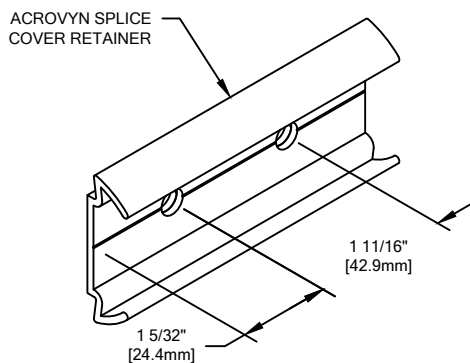

FIGURE 1.
4. DRILL TWO 9/32\" PILOT HOLES THROUGH THE ACROVYN SPLICE COVER RETAINER, 1 5/32\" [29.4mm] FROM THE END AND 1 11/16\" [42.9mm] O.C. ALONG THE DIE MARK (SEE FIGURE 1). THE 3\" SPLICE CLIP MAY ALSO BE USED AS A TEMPLATE.